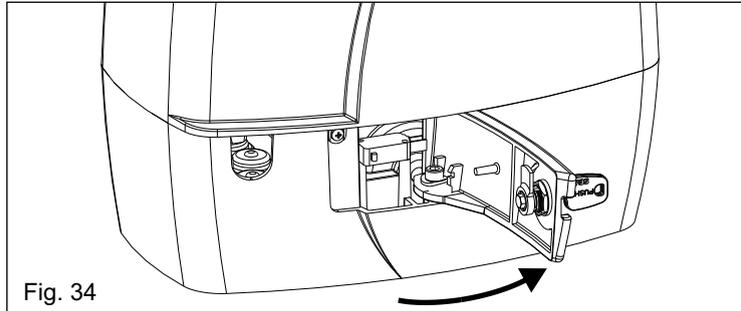

Fig. 34
- Pull the release lever until it stops, about 90° (Fig. 34).